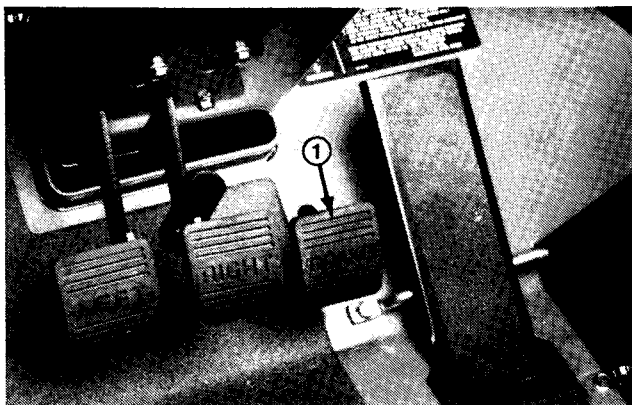

Figure 4
1. Fill master cylinder with fluid (Fig. 2). Push brake pedal with short strokes until bubbling stops inside master cylinder reservoir (Fig. 4).